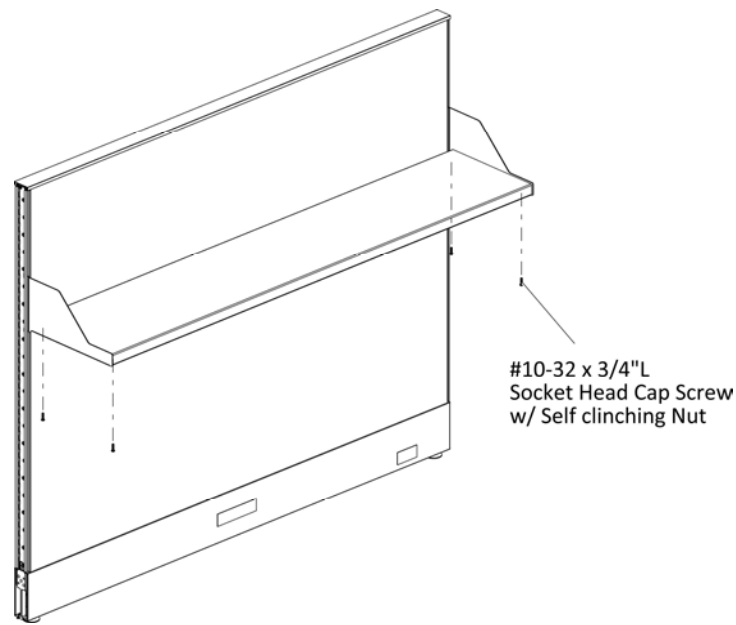

Figure 3
5. Securely fasten the steel shelf to shelf gables with #10-32 X 3/4"L Socket Head Cap Screw w/ Self-clinching nut, 10-32 type 1, (Figure 3).